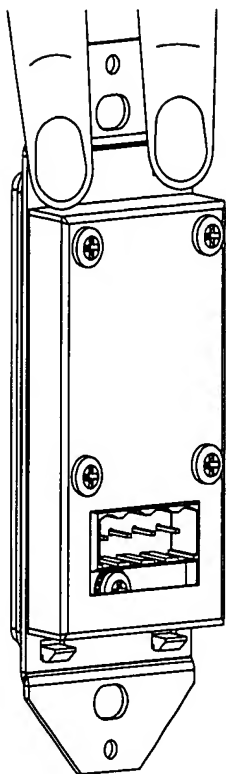

Figure 3
2. Hold the WS100R as shown in (Figure 3). Locate the two plastic mounting tabs at the top rear of the Decora-style insert. Using two fingers, simultaneously press both tabs down (towards the center of the insert) and forward (away from you) until the insert pops free from its mounting slots.